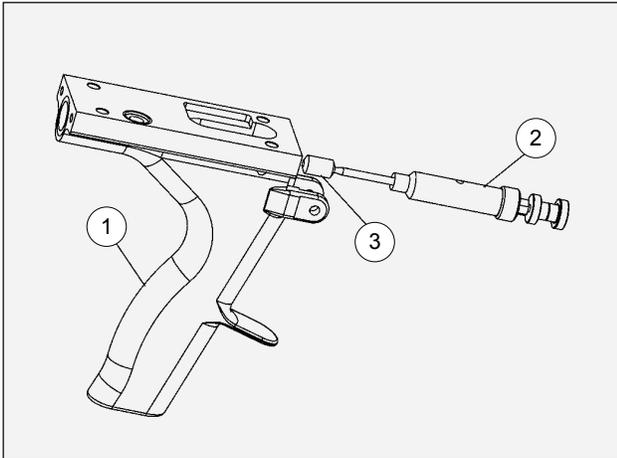

Figure 21: Needle Packing Assembly
- Lay the handle assembly on its side marked “X” (See figure 21) and support the area under the trigger tangs, leaving the roll pin clear.
NEEDLE PACKING ASSEMBLY (Figure 21)
5. Place the new packing (Item 52) on the needle assembly (see Figure 21).